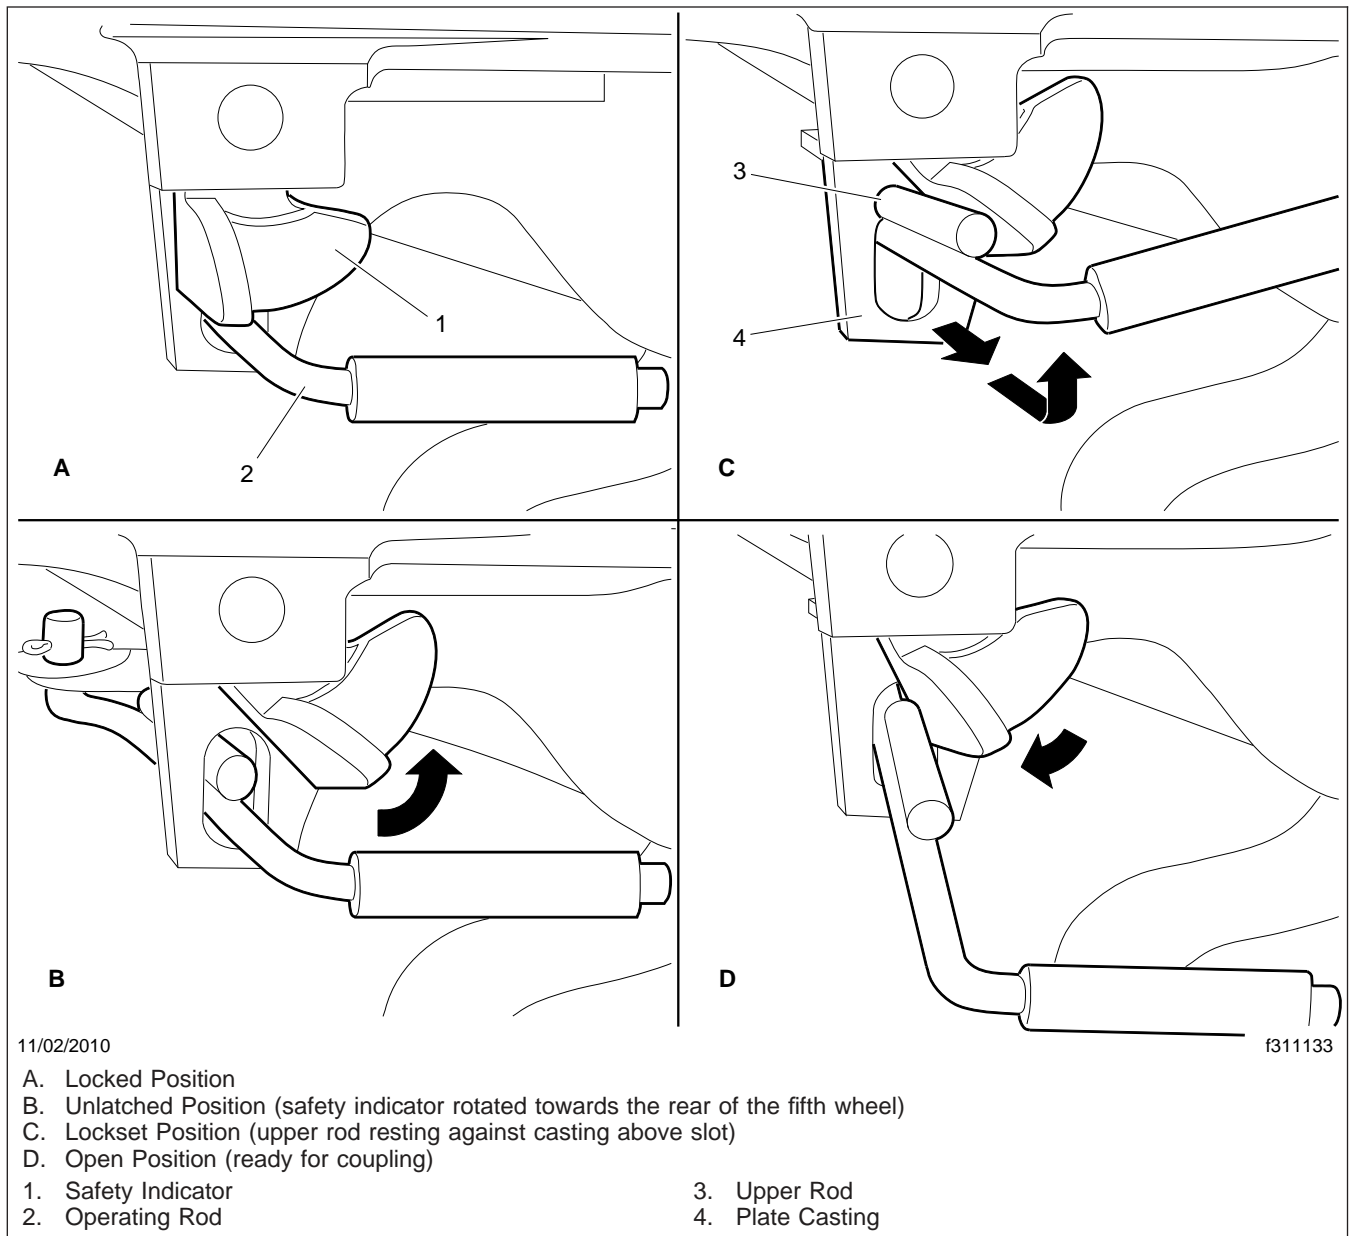

Fig. 17.9, Holland Kingpin Locking Mechanism
- 6.2 **Holland:** In the locked position the safety indicator swings freely over the operating rod. See Fig. 17.9, View A.
To unlock the mechanism, manually rotate the safety indicator toward the rear of the fifth wheel. See Fig. 17.9, View B.
Pull the operating rod out. When the upper operating rod shoulder is outside the slot, raise the handle and place the shoulder of the upper rod against the plate casting, above the slot. See Fig. 17.9, View C.
The fifth wheel is now in the lockset position and is ready for uncoupling. As the vehicle pulls away from the trailer the kingpin forces the jaw to rotate, contacting the lock. Continued rotation of the jaw forces the lock to move outward, and drops the upper rod back into the slot. See Fig. 17.9 View D. The wheel is now ready for coupling.